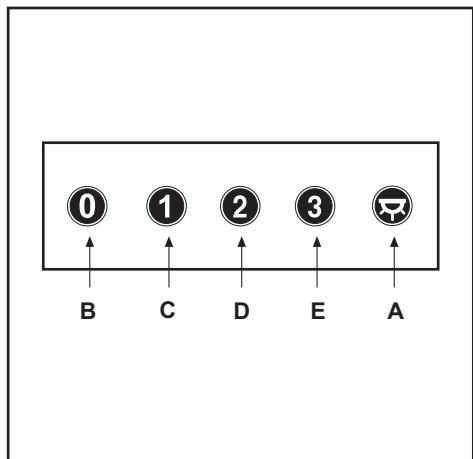

Fig.6
• COMMANDS:(Fig.6)**MECHANICAL** the key symbols are explained below: